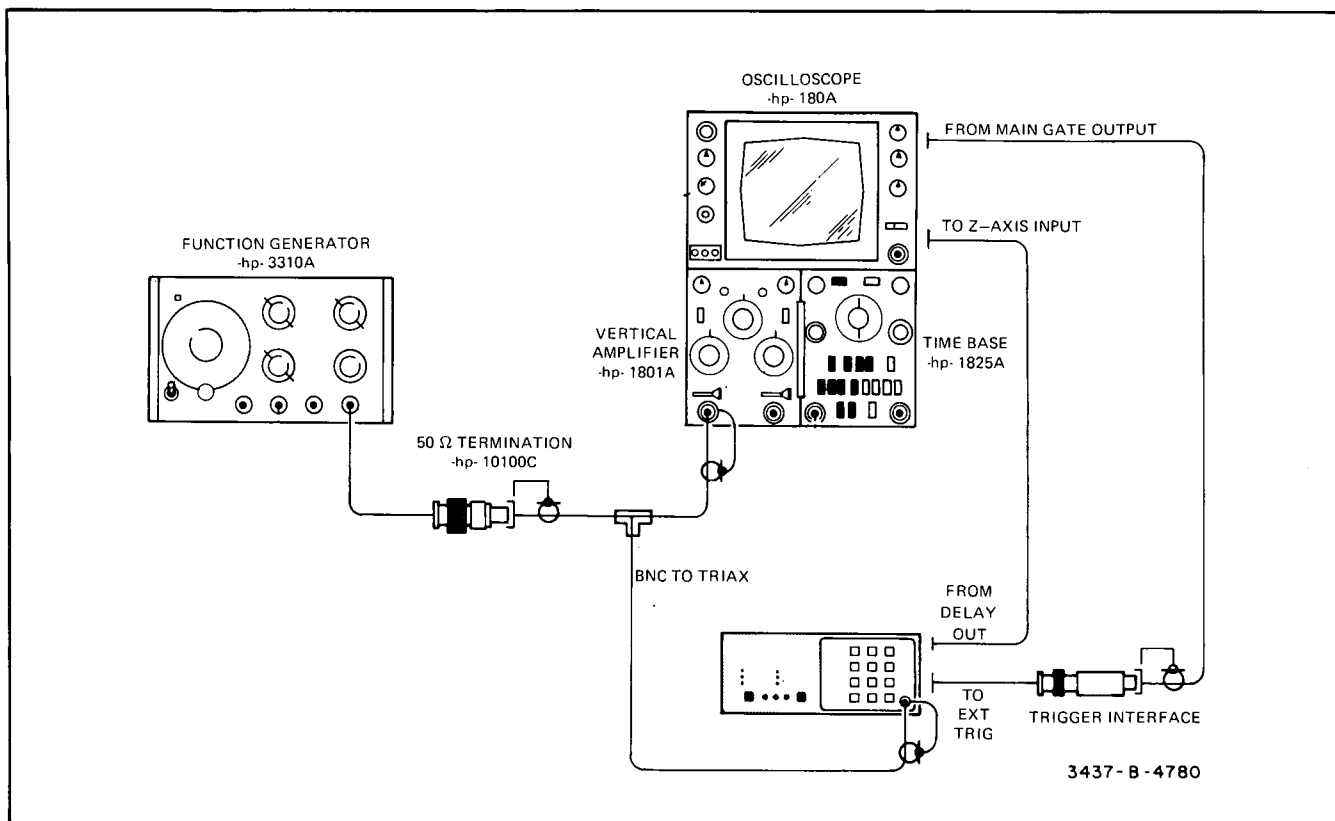

Figure 3-2. Oscilloscope Accuracy Enhancement.
- Connect the equipment as illustrated in Figure 3-2.